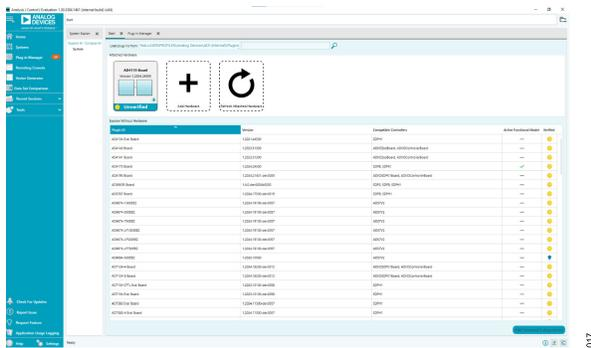

Figure 19. AD4170-4 Evaluation Board Connected
3. Double click the **AD4170 Board** icon to open the **AD4170 Board** view window shown in Figure 19.